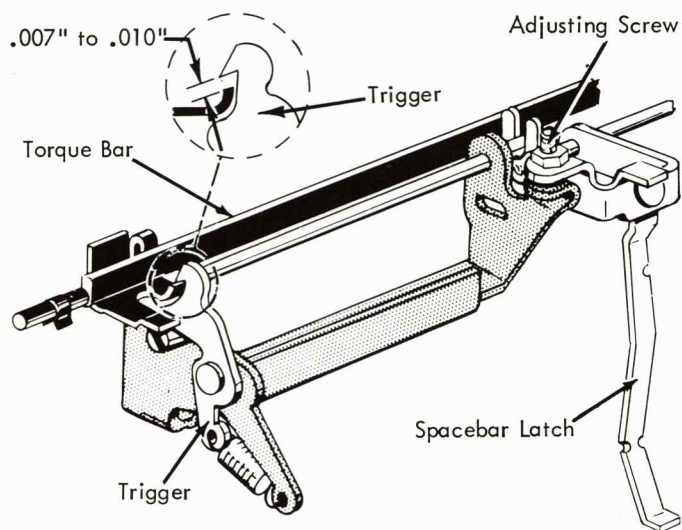

FIGURE 136A. Spacebar Latch Lever Screw (Long Carriage)
2. Spacebar Latch Lever Screw - Adjust the screw so that .007" to .010" clearance exists between the escapement trigger and the escapement torque bar (Fig. 136A). Disconnect the escapement trip link before making this adjustment.